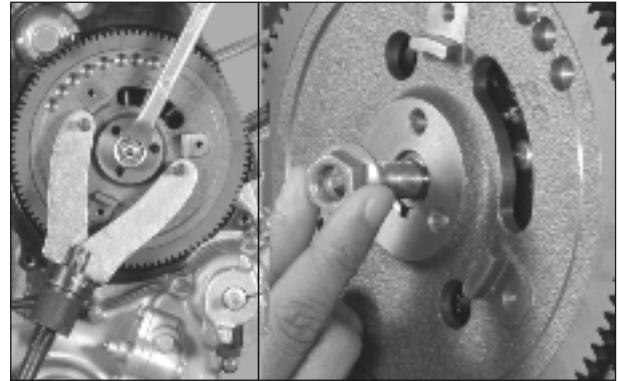

Fig. 3.142
- Hold the magneto rotor using special tool.(Fig. 3.142)